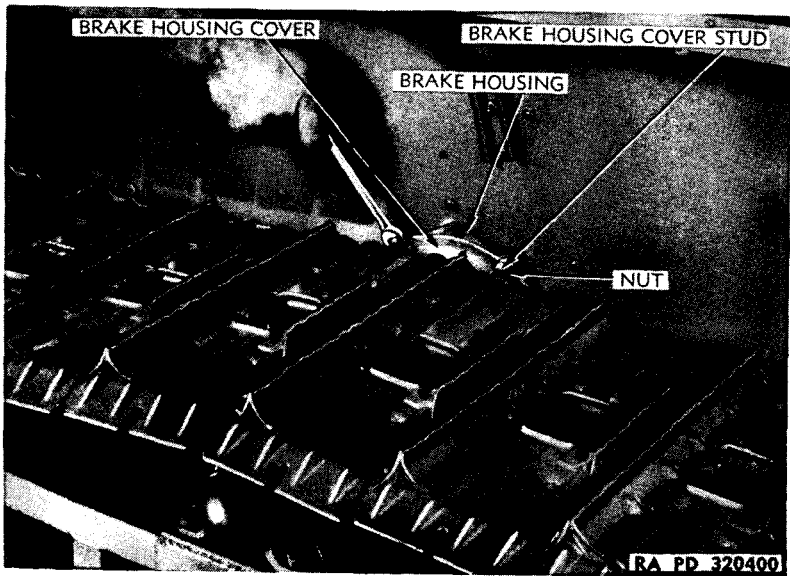

Figure 100—Removing Nut from Brake Housing Cover
(2) **REMOVE UNIT.** Remove six nuts and lock washers holding brake housing cover to brake housing (fig. 100). Have a man at each end of track pull unit straight away from tractor until final drive shaft clears brake housing (fig. 100).